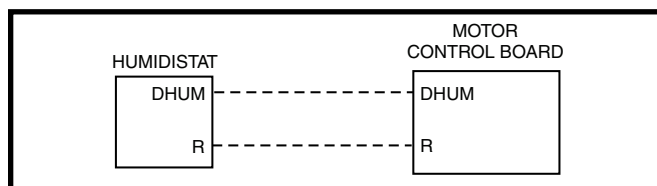

Figure 18. DHUM Wiring Configuration
- If the room thermostat incorporates a humidity sensor and DEHUM output, connect the DEHUM on the thermostat to the DEHUM terminal on the motor control board. See Figure 18.